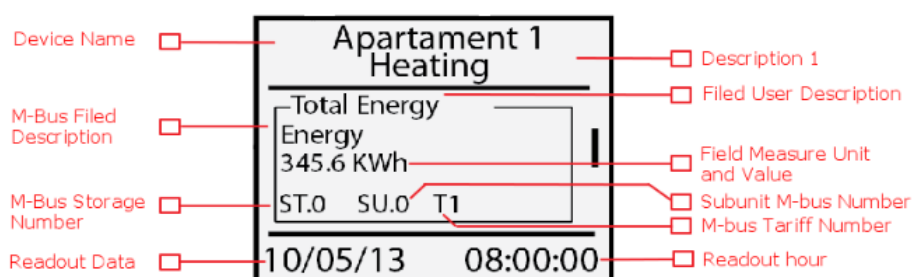

Figure 14 - Meter data readout
- **2-2:** press OK in correspondence of a meter in the list to view the values of the last readout (if any). The first frame, indicated in Figure 14, is common to all three meters, as it is a summary of the main information pertaining to the meter, such as the M-bus status byte value, meter readout value, and the full serial number. If the M-Bus status byte is different from zero, it indicates possible meter anomalies. In the event that a meter is included in the datalogger database, you can identify an anomaly by accessing the webserver and consulting the Devices page in the Settings menu. In the event that the meter is not included in the datalogger database, refer to the meter user guide to identify the anomaly corresponding to the number indicated in the M-Bus status Byte